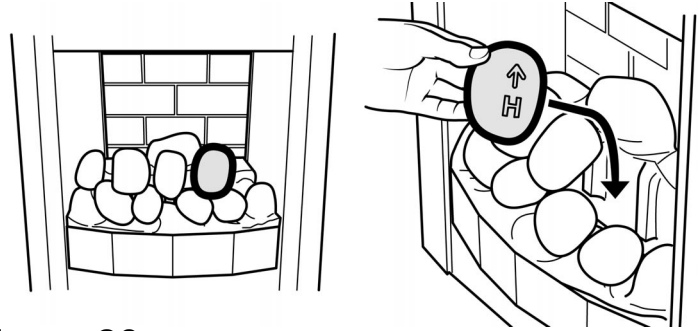

Figure 28.
**11.** Hold pebble 'H' upright with the arrow pointing to the top. Place pebble 'H' between the front and rear base pebbles. It should rest in between pebbles 'C' & 'D' and against the moulded pebble in the rear pebble base. (See figure 28).